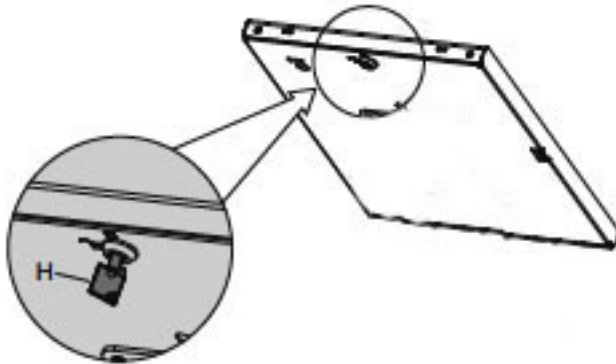

Figure 4A
1. If the cover is locked to the holder, insert **Key (H)** into the security lock and turn it counterclockwise to unlock, then remove the cover, see **Figure 4A**.